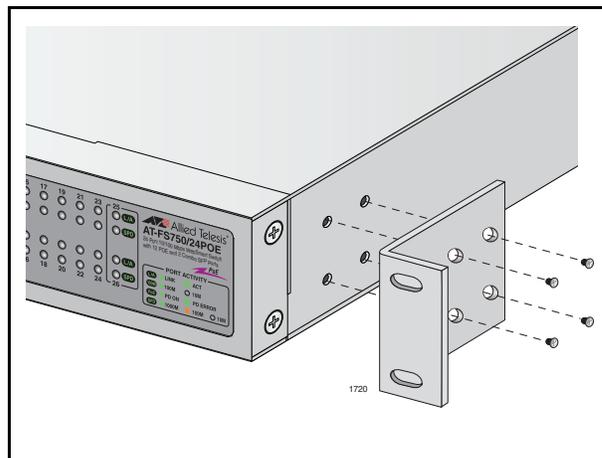

Figure 12. Attaching the Rack-Mount Bracket
2. Install a bracket on one side of the switch using a Phillips screwdriver and three of the rack-mount screws included with the switch. Figure 12 shows how to mount the brackets on the switch.